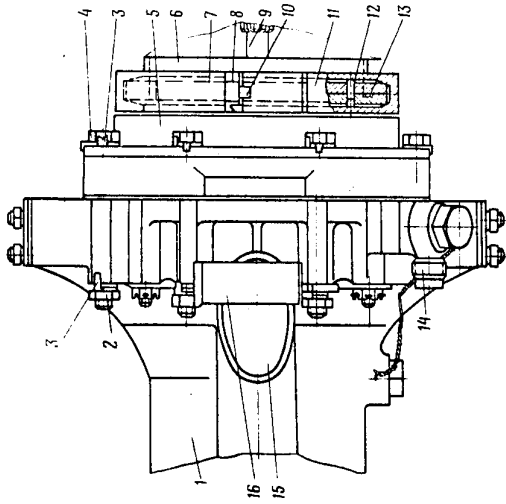

Fig. 15. Attachment of HP-10A Pump
20. Place the quick release joint ring onto the flange of the HP-10A pump so that the right-hand hole for the retaining dowel should be located opposite to the bolt, to the right of the boss bearing the name plate; fit a gasket under the ring (Fig.15). Fit in the holding-down bolts, having placed locking washers under their heads.